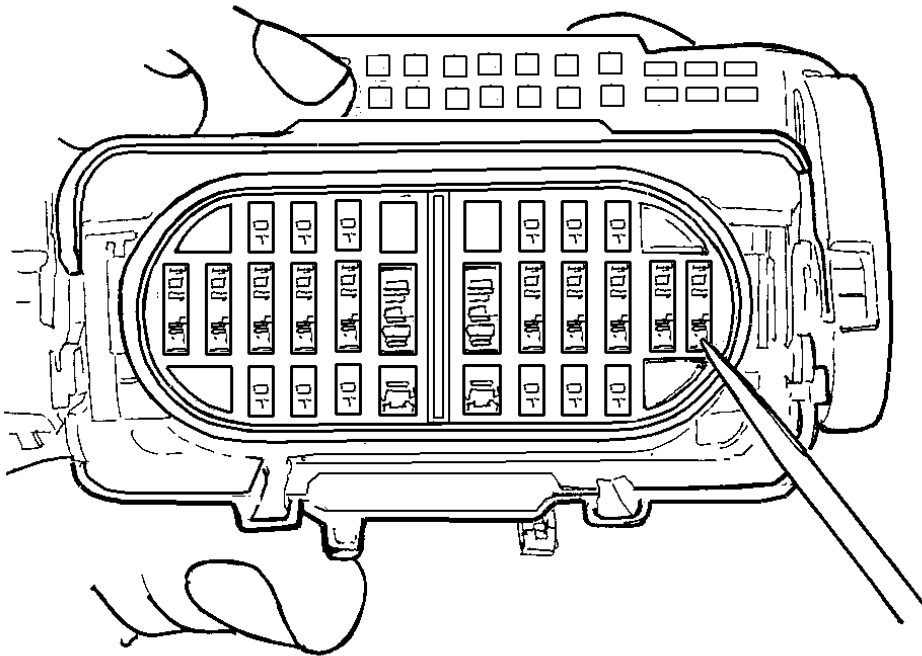

Figure 6 Socket B-12 Front View
8. Insert the new harness wire small connector terminal into socket B-12 (40 pin connector) from the rear side (retainer side) of the connector (Figure 6).